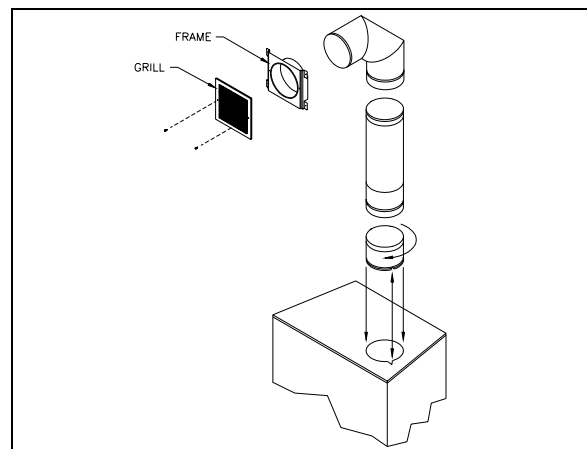

Figure 14
2. Double hot air outlet including: (See Fig.14)